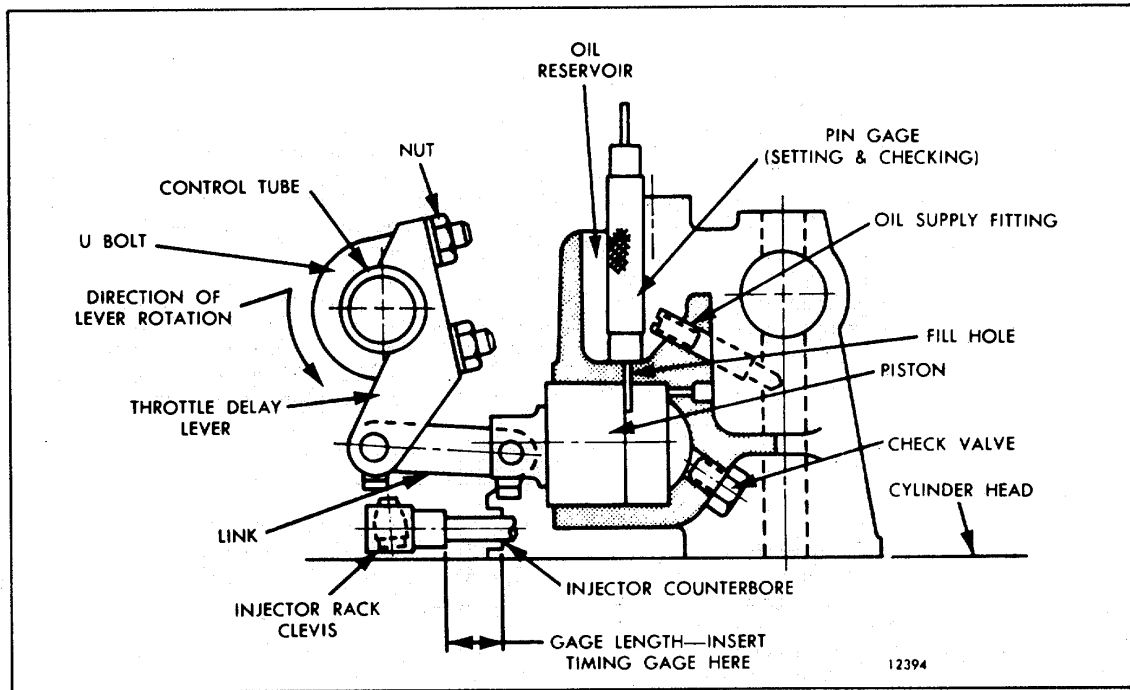

FIG. 4 Adjusting Throttle Delay Cylinder (Current)
1. Refer to Fig. 4 and insert the timing gage between the injector body and the shoulder on the injector rack clevis of the injector nearest the throttle delay cylinder. Refer to Section 14 and TABLE 9 of that section for the proper gage to set a Certified Vehicle engine.
4. Rotate the throttle delay lever in the direction shown in Fig. 4 until further movement is limited by the piston contacting the pin gage.